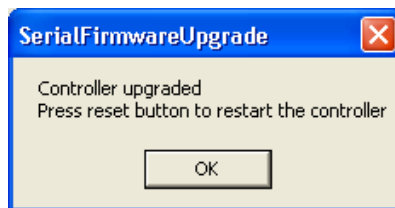

Figure 52. The Serial Firmware Upgrade window.
- Select Firmware version1 from the drop-down menu and click **Upgrade**. File transmission starts to the controller. A confirmation window opens when the controller is upgraded, see Figure 52.